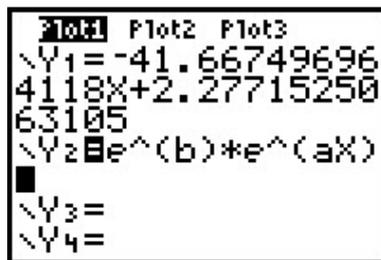

Fig.19
6. Function $U_R(t)$ is now defined and stored as Y_2 (Fig.19).